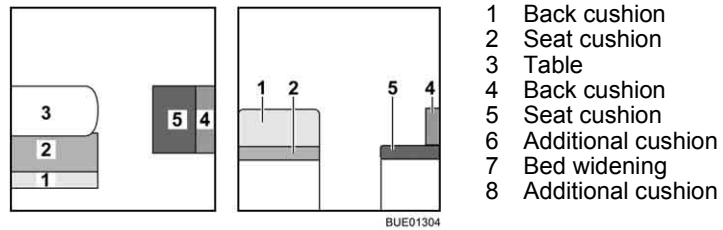

Fig. 127 Prior to conversion
- Convert the table (Fig. 127,3) to a bed foundation (see section 6.10).
- Remove the back cushion (Fig. 127,1) and lay it aside.